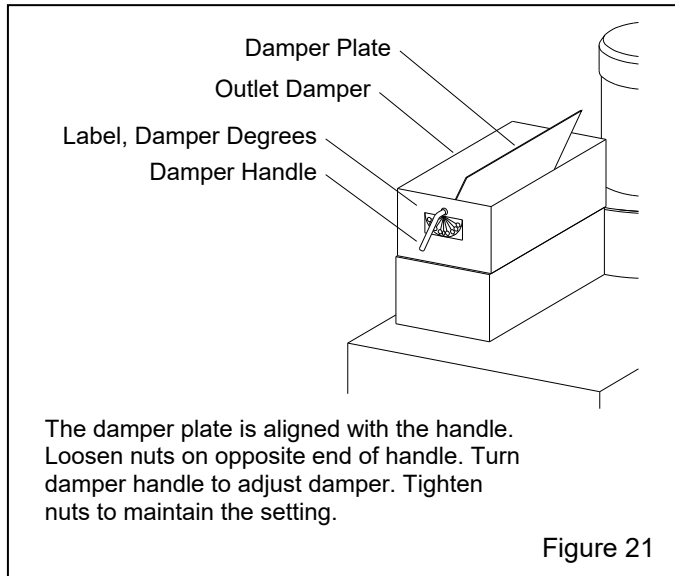

Figure 21
5.3.2 Adjust static pressure by opening or closing the outlet damper located above the dust collector, refer to Figure 21. If the damper is not opened far enough, the reclaimer will not remove fines, resulting in dusty media, poor visibility; or will not convey media, causing media build-up in the hose between the cabinet hopper and reclaimer. If the damper is opened too far, it may cause carry-over (usable media carried into the dust collector)